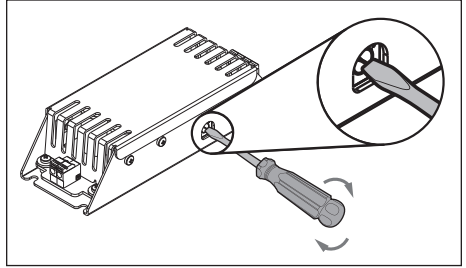

Figure 1. Turning Dial with Screwdriver
- Jandy®: J-Series (1)
- Hayward® Industries: H-Series (2)
- Pentair® Water Pool and Spa, Inc.: P-Series (3)
- Using a flathead screwdriver, rotate the dial on the side of the Smart Sync LED Adapter to the corresponding number for the series you want to select (see sticker on LED adapter). See *Figure 1*.